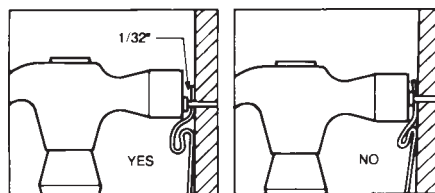

FIG. 6 Attachment of Vinyl Siding
9.1.1 When applied, vinyl siding products must be attached “loosely,” leaving approximately a $\frac{1}{32}$ -in. (0.8-mm) space between the vinyl and the fastener head or crown to permit thermal movement. (See Fig. 6.)